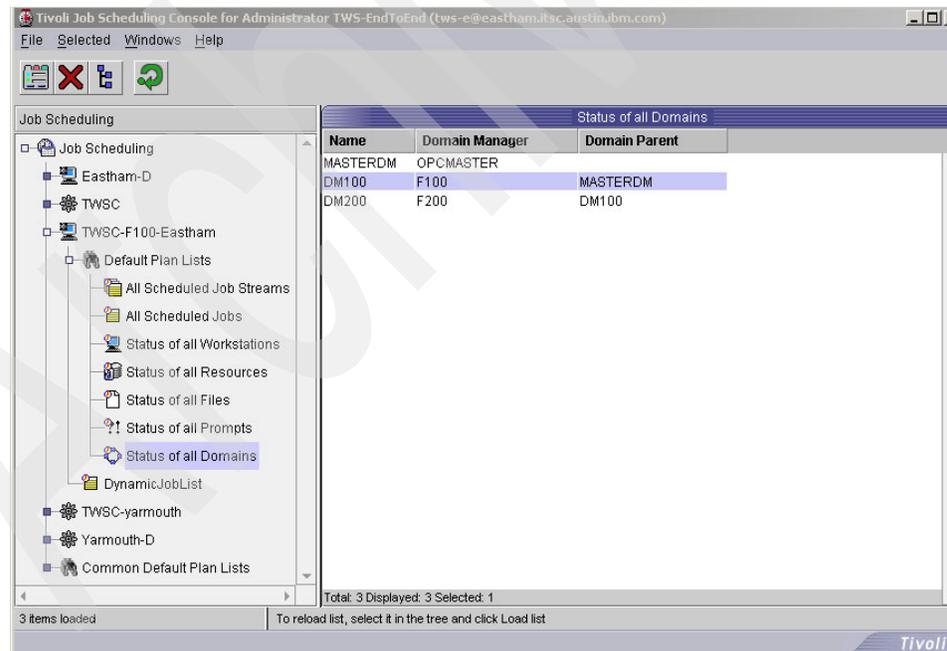

Figure 17-9 Status of all Domains list
1. Double-click **Status of all Domains** in the Default Plan Lists in the domain manager JSC instance (TWSC-F100-Eastham) (Figure 17-9).